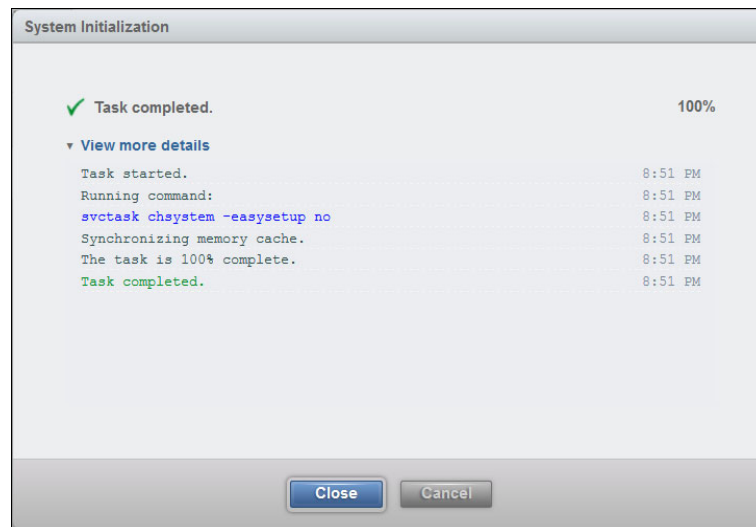

Figure 6-20 Summary of all changes completion window
2. The next window summarizes *all changes* (Figure 6-20). On error, you can click **Cancel**, or click **Close** to continue.